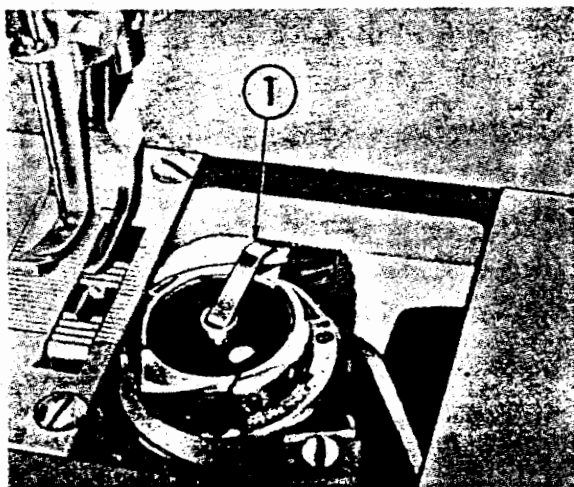

Fig. 7
## 7. How to remove the bobbin (Fig. 7)
Pull out the right bed slide, raise the bobbin case latch (Fig. 7 ①) with your fingers and take out the bobbin.